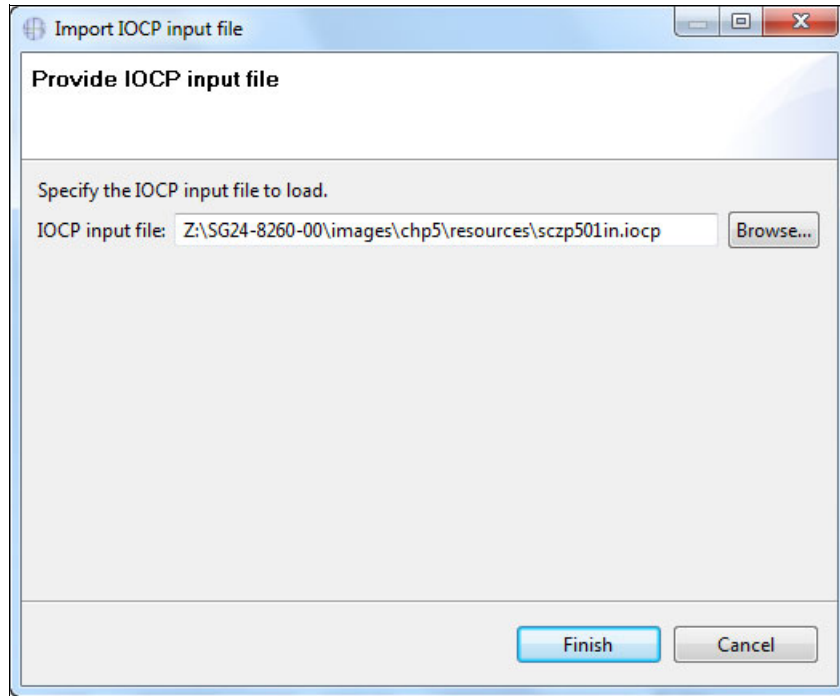

Figure 5-68 CMT - Specifying the IOCP file for import
2. Select the IOCP file on your workstation to import into the CHPID Mapping Tool and click **Finish** (Figure 5-68).